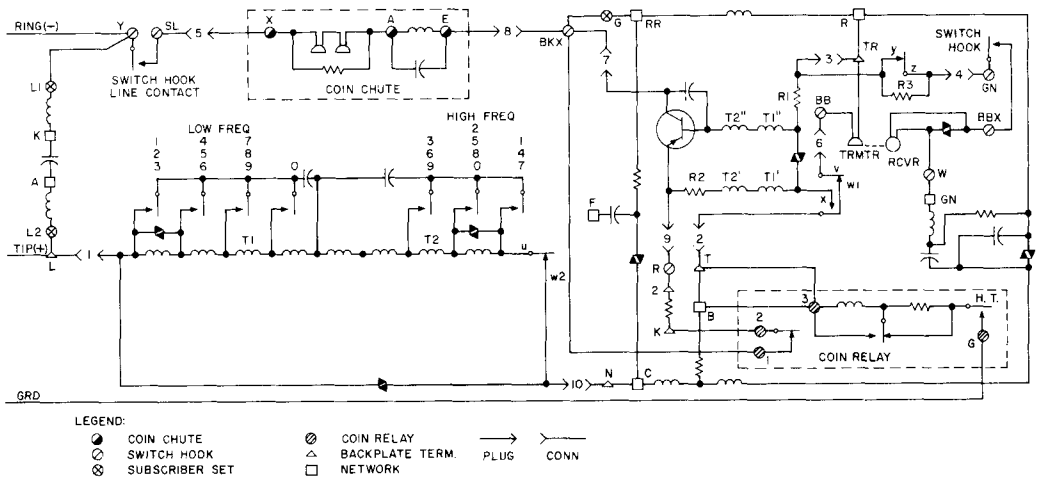

Fig. 10 - 1234G Coin Collector With 685A Subscriber Set
- Fig. 10 — 1234G Coin Collector With 685A Subscriber Set